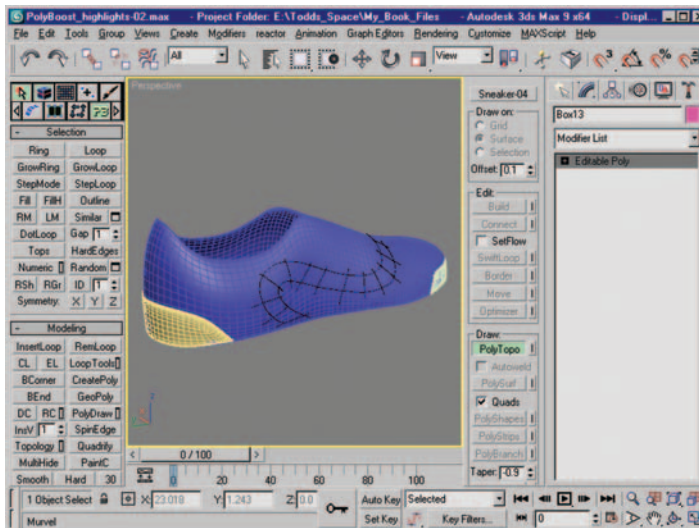

Figure 12.38 Lines crossing over the span between the first two lines drawn.
6. Draw a series of lines that span across the two lines that were just created. Think of this process as drawing the polygons you desire in the final mesh. Figure 12.38 shows the lines as they cross the distance between the first two lines drawn. These shorter lines should overlap the first two lines created.